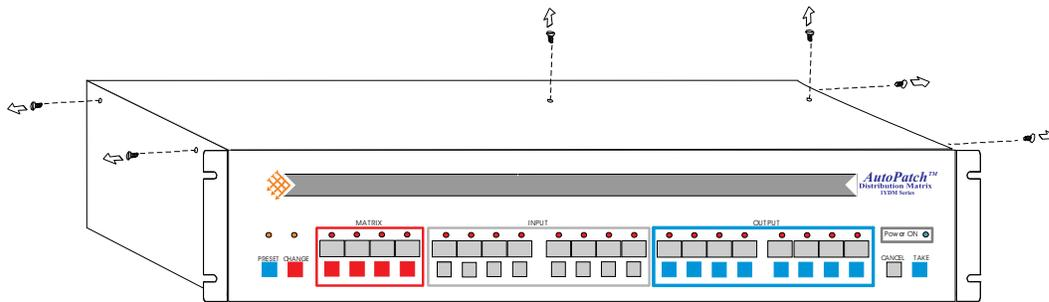

figure 4.10 Removing a 1YDM enclosure lid.
2. Remove the two machine screws furthest toward the back on each side of the enclosure (a total of four screws are removed). See figure 4.10.